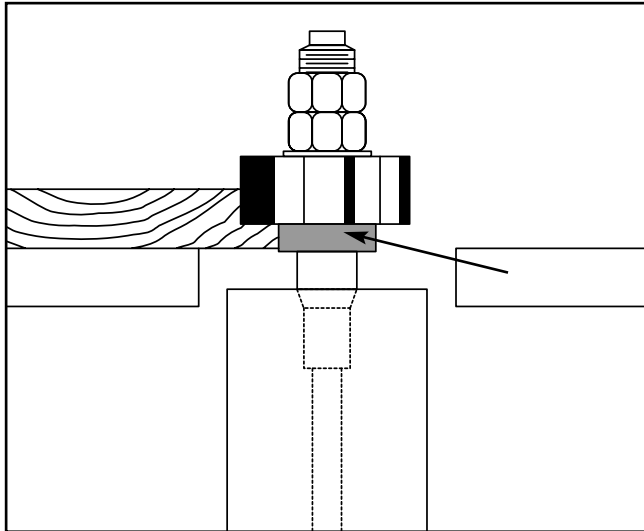

Figure 40. Rub collar installed below cutter.
1. **Rub collar below the cutter:** When the rub collar is used below the cutter as shown in **Figure 40**, the progress of the cut can be observed. However, any unintentional movement may lift the workpiece into the cutter, damaging your work and creating a potential kickback situation.